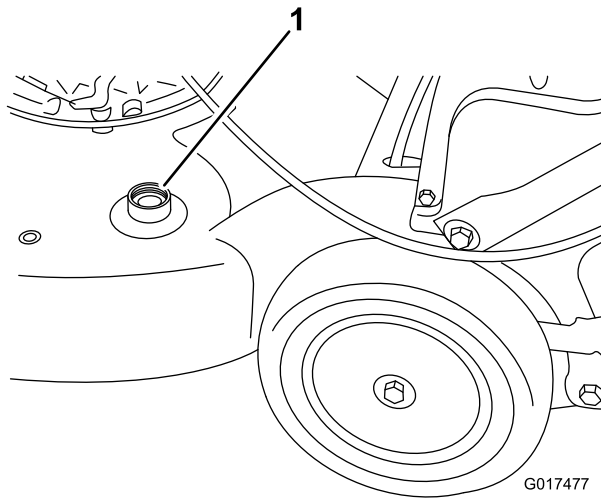

Figure 42
3. Attach a garden hose that is connected to a water supply to the washout port on the mower housing (Figure 42).